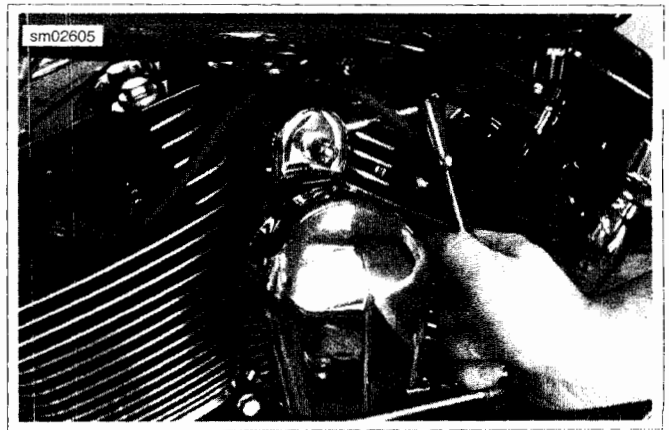

Figure 4-19. Engine Temperature Sensor Removal
7. See Figure 4-19. Loosen ET sensor using socket. When sensor starts to turn easily, finish removing by hand.